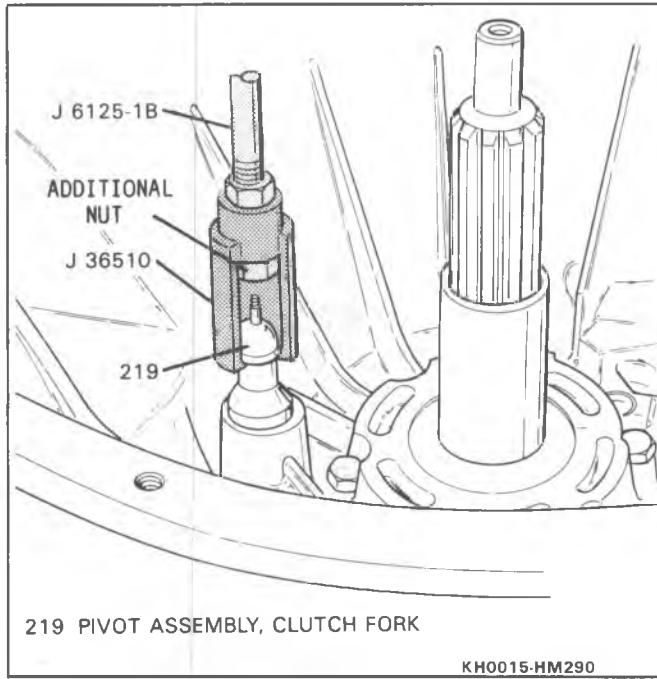
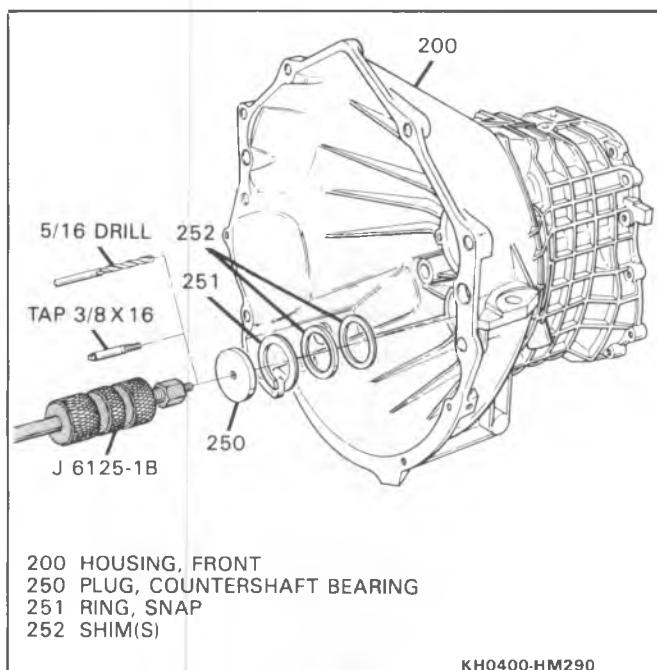

Figure 38 Removing Clutch Fork Pivot Assembly
Figure 39 Removing Countershaft Bearing Plug
3. Clutch fork pivot assembly (219), using J 36510 and J 6125-1B (Figure 38).
4. Shift shaft/rails plugs (221)
5. Countershaft bearing plug (250) (Figure 39).
- Drill hole through plug (250) with 5/16" drill bit.